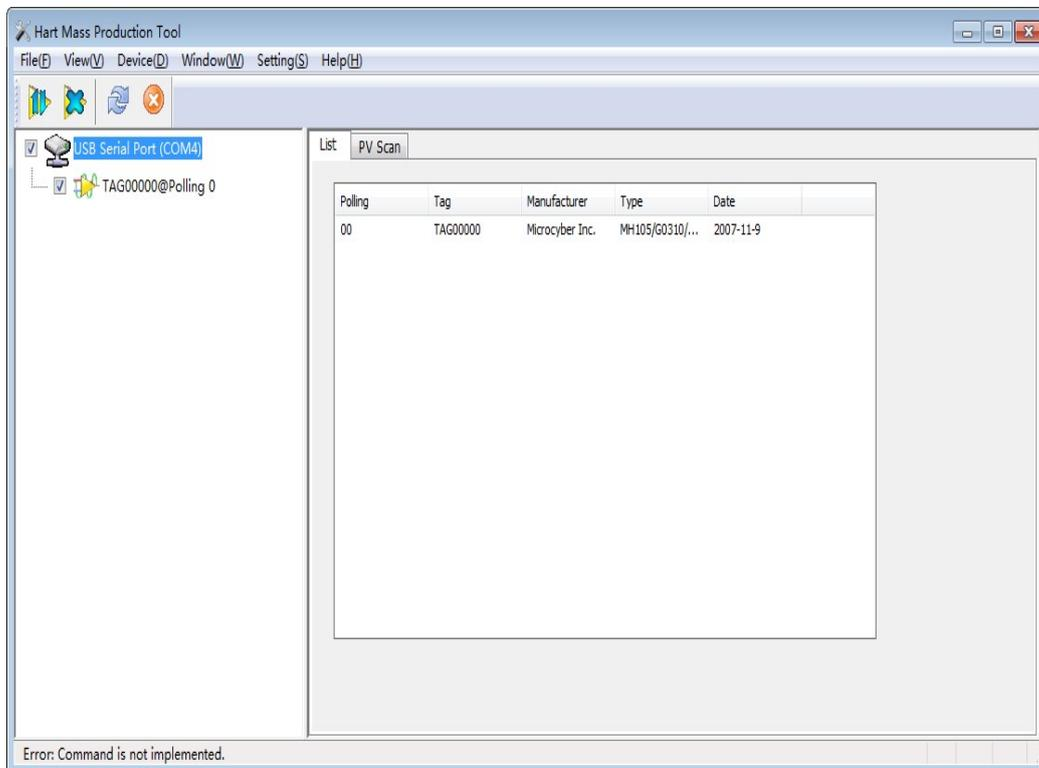

Figure 5.18 Device List tab
- (1) Click on the left mouse button in the network view serial node (for example: COM1), the right tab view shows the serial port connected to the network of all online device related tab information.
- (2) Click on the "device list" in the right tab view, and if the information is obtained successfully, the summary information of all searched online devices is displayed, as shown in Figure 5.18.